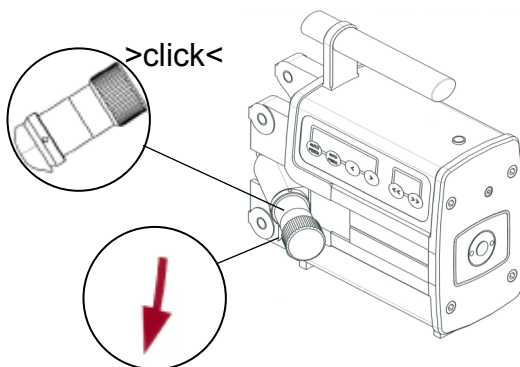

Fig. 63
1. Determine the correct rotation direction of the Drive Unit, see arrow on the Lathe, Fig. 63.
9. One click equals 0.05 mm (0.002 inch). Fig. 63.